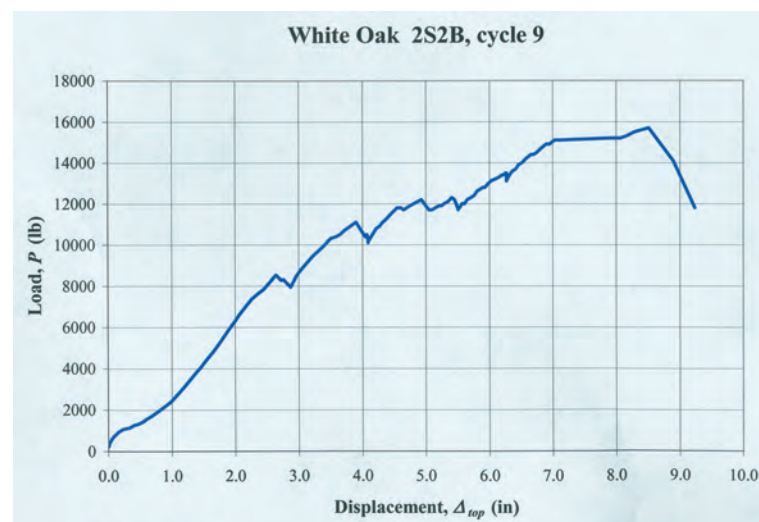

FIGURE 7. MAXIMUM LOAD CYCLE.
**Maximum Load.** Maximum applied loads and corresponding top-level displacements for all frames are listed in Table 3. The Douglas fir and Port Orford cedar frames resisted the maximum available actuator displacement of 3½ in. without incurring failure, and the Eastern white pine frame incurred a failure at its attachment to the test fixture, at an imposed top displacement of 7.9 in. In other words, all three of these frames were able to resist increasing lateral load to the point of maximum displacement. The load-displacement curve for these frames was slightly pinched, indicating the presence of some free displacement, but this was likely due to joint damage incurred in previous tests. The white oak frame was the only 2S2B frame displaced sufficiently to reach an ultimate load within the frame itself rather than at the support fixture. The maximum load cycle of the white oak frame is presented in Fig. 7.